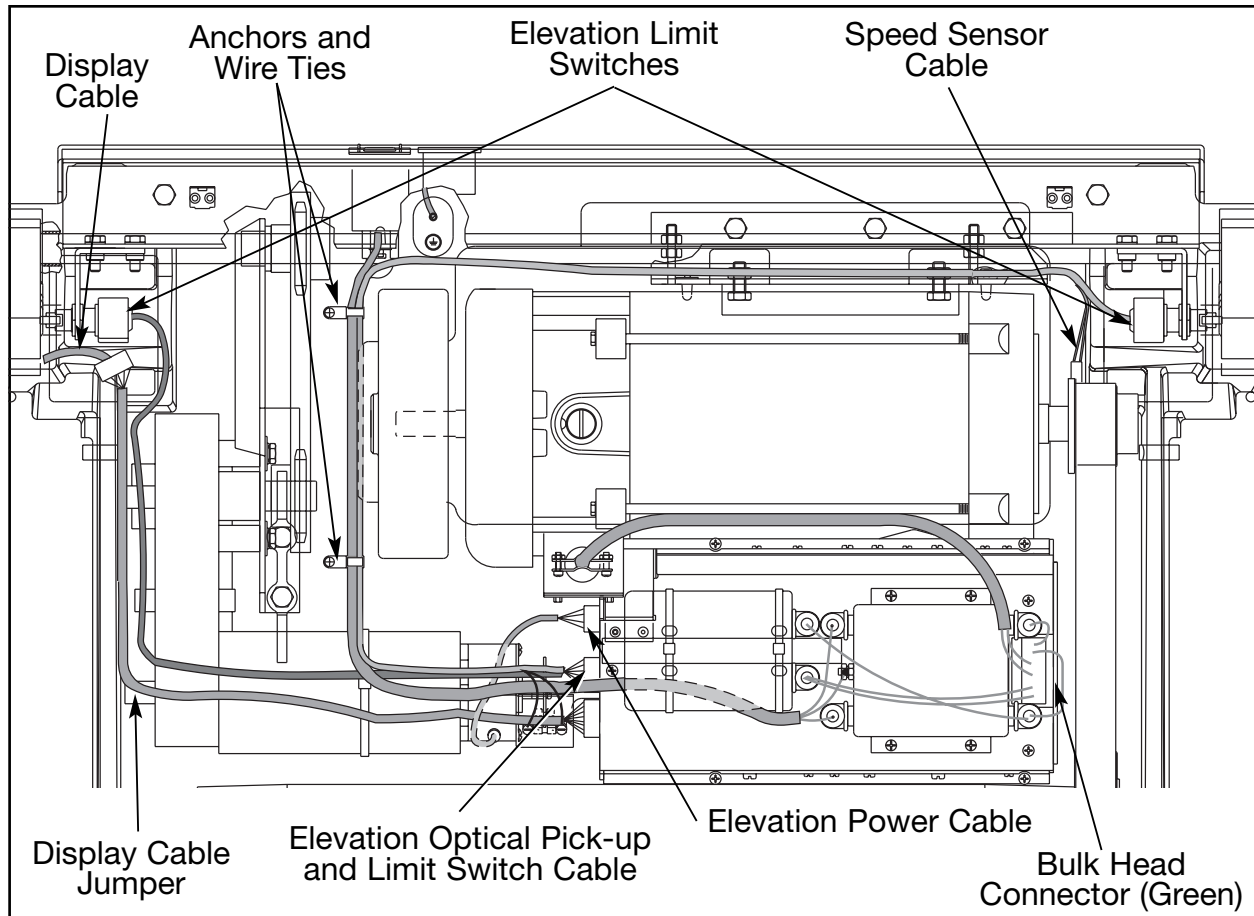

Figure 10
- C. Disconnect the bulk head connector (green connector) from the PWM module. See Figure 10.